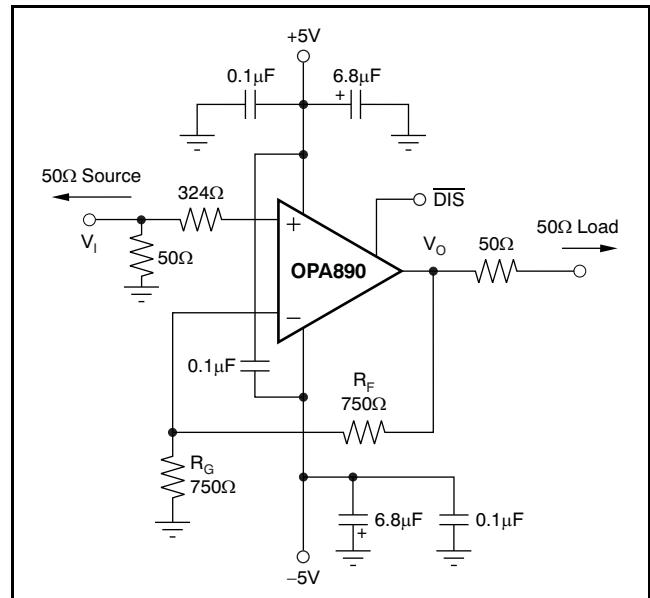
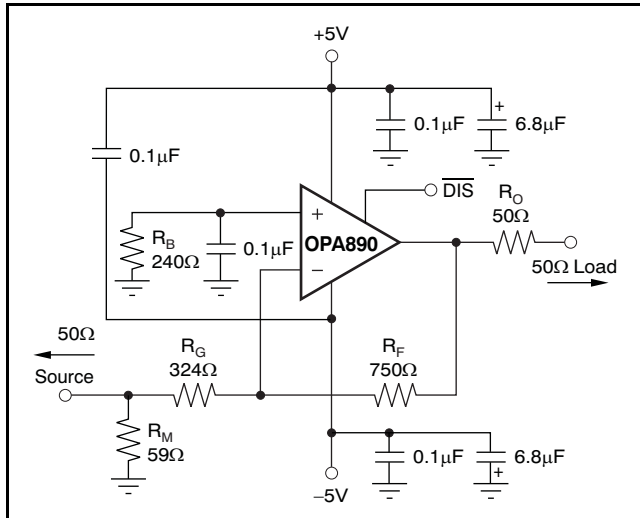

Figure 46. DC-Coupled, G = +2, Bipolar Supply, Specification and Test Circuit
Figure 51. Gain of $-2V/V$ Example Circuit
Figure 46 shows the dc-coupled, gain of +2, dual power-supply circuit configuration used as the basis of the $\pm 5\text{V}$ Electrical Characteristics and Typical Characteristics. For test purposes, the input impedance is set to 50Ω with a resistor to ground and the output impedance is set to 50Ω with a series output resistor. Voltage swings reported in the Typical Characteristics are taken directly at the input and output pins, while output powers (dBm) are at the matched 50Ω load. For the circuit of Figure 46, the total effective load will be 100Ω – $1.5\text{k}\Omega$. The disable control line is typically left open to ensure normal amplifier operation. Two optional components are included in Figure 46. An additional resistor (324Ω) is included in series with the noninverting input. Combined with the 25Ω dc source resistance looking back towards the signal generator, this configuration gives an input bias current cancelling resistance that matches the 375Ω source resistance seen at the inverting input (see the DC Accuracy and Offset Control section). In addition to the usual power-supply decoupling capacitors to ground, a $0.1\mu\text{F}$ capacitor is included between the two power-supply pins. In practical printed circuit board (PCB) layouts, this optional-added capacitor typically improves the 2nd-harmonic distortion performance by 3dB to 6dB.
Voltage-feedback op amps exhibit decreasing closed-loop bandwidth as the signal gain is increased. In theory, this relationship is described by the gain bandwidth product (GBP) shown in the *Electrical Characteristics*. Ideally, dividing GBP by the noninverting signal gain (also called the noise gain, or NG) predicts the closed-loop bandwidth. In practice, this relationship only holds true when the phase margin approaches 90° , as it does in high-gain configurations. At low gains (increased feedback factors), most amplifiers exhibit a more complex response with lower phase margin. The OPA890 is compensated to give a slightly peaked response in a noninverting gain of $2V/V$ (see Figure 46). This compensation results in a typical gain of $+2V/V$ bandwidth of $115MHz$, far exceeding that predicted by dividing the $130MHz$ GBP by 2. Increasing the gain causes the phase margin to approach 90° and
The OPA890 is a general-purpose, wideband voltage-feedback op amp; therefore, all of the familiar op amp application circuits are available to the designer. Inverting operation is one of the more common requirements and offers several performance benefits. Figure 51 shows a typical inverting configuration where the I/O impedances and signal gain from Figure 46 are retained in an inverting circuit configuration.
In the inverting configuration, three key design considerations must be noted. First, the gain resistor (R_G) becomes part of the signal channel input impedance. If input impedance matching is desired (which is beneficial whenever the signal is coupled through a cable, twisted-pair, long PCB trace, or other transmission line conductor), R_G may be set equal to the required termination value and R_F adjusted to give the desired gain. This approach is the simplest, and results in optimum bandwidth and noise performance. However, at low inverting gains, the resultant feedback resistor value can present a significant load to the amplifier output. For an inverting gain of $-2V/V$, setting R_G to 50Ω for input matching eliminates the need for R_M but requires a 100Ω feedback resistor. This option has the interesting advantage that the noise gain becomes equal to $2V/V$ for a 50Ω source impedance—the same as the noninverting circuits considered in the previous section. The amplifier output, however, now sees the 100Ω feedback resistor in parallel with the external load. In general, the feedback resistor should be limited to a range of 200Ω to $1.5k\Omega$. In this case, it is preferable to increase both the R_F and R_G values, as shown in Figure 51, and then achieve the input matching impedance with a third resistor (R_M) to ground. The total input impedance becomes the parallel combination of R_G and R_M .
The second major consideration, touched on in the previous paragraph, is that the signal source impedance becomes part of the noise gain equation and influences the bandwidth. For the example in Figure 51, the R_M value combines in parallel with the external 50Ω source impedance, yielding an effective driving impedance of $50\Omega \parallel 59\Omega = 27\Omega$. This impedance is added in series with R_G for calculating the noise gain (NG). The resulting NG is $3.14V/V$ for Figure 51, as opposed to only 2 if R_M could be eliminated as discussed previously. The bandwidth is therefore slightly lower for the gain of $-2V/V$ circuit of Figure 51 than for the gain of $+2V/V$ circuit of Figure 46.
The third important consideration in inverting amplifier design is setting the bias current cancellation resistor on the noninverting input (R_B). If this resistor is set equal to the total dc resistance looking out of the inverting node, the output dc error (because of the input bias currents) is reduced to $(\text{Input Offset Current}) \times R_F$. If the 50Ω source impedance is dc-coupled in Figure 51, the total resistance to ground on the inverting input is 351Ω . Combining this resistance in parallel with the feedback resistor gives the value of $R_B = 240\Omega$ used in this example. To reduce the additional high-frequency noise introduced by this resistor, it is sometimes bypassed with a capacitor. As long as $R_B < 350\Omega$, a capacitor is not required because the total noise contribution of all other terms is less than that of the op amp input noise voltage. As a minimum, the OPA890 requires an R_B value of 50Ω to damp out parasitic-induced peaking—a direct short to ground on the noninverting input runs the risk of a very high-frequency instability in the input stage.
Evaluating these two equations for the OPA890 circuit and component values (see Figure 46) gives a total output spot noise voltage of 17.4nV/√Hz and a total equivalent input spot noise voltage of 8.7nV/√Hz. This total includes the noise added by the bias current cancellation resistor (175Ω) on the noninverting input. This total input-referred spot noise voltage is only slightly higher than the 8nV/√Hz specification for the op amp voltage noise alone. This result will be the case, as long as the impedances appearing at each op amp input are limited to the previously recommend maximum value of 350Ω. Keeping both $(R_F \parallel R_G)$ and the noninverting input source impedance less than 350Ω satisfies both noise and frequency response flatness considerations. Because the resistor-induced noise is relatively negligible, additional capacitive decoupling across the bias current cancellation resistor (R_B) for the inverting op amp configuration of Figure 51 is not required.
The balanced input stage of a wideband voltage-feedback op amp allows good output dc accuracy in a wide variety of applications. The power-supply current trim for the OPA890 gives even tighter control than comparable amplifiers. Although the high-speed input stage does require relatively high input bias current (+25°C worst case, 1.6μA at each input terminal), the close matching between them may be used to reduce the output dc error caused by this current. The total output offset voltage may be considerably reduced by matching the dc source resistances appearing at the two inputs. This matching reduces the output dc error resulting from the input bias currents to the offset current times the feedback resistor. Evaluating the configuration of Figure 46, and using worst-case +25°C input offset voltage and current specifications, gives a worst-case output offset voltage equal to: